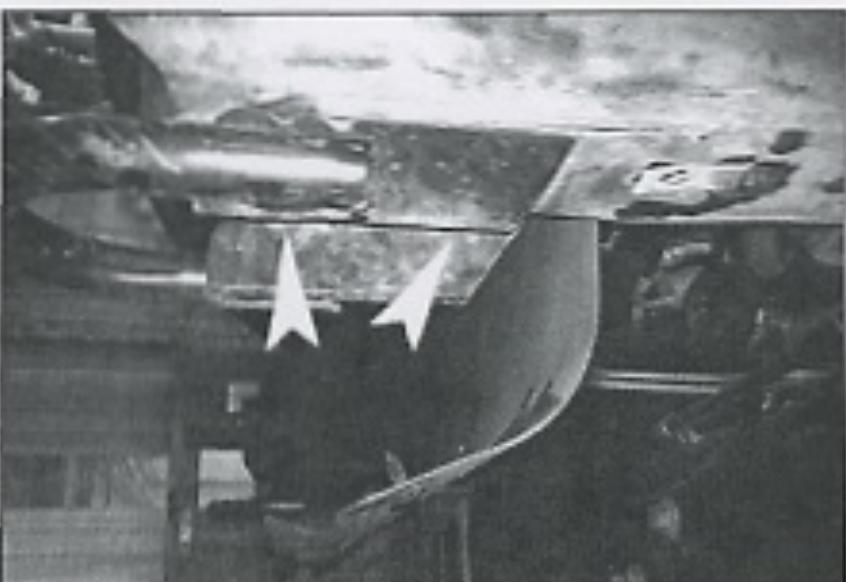

Fig 6
6. Remove (4) bolts holding on tow hooks. Keep all hardware and parts for reassembly (Fig 6).